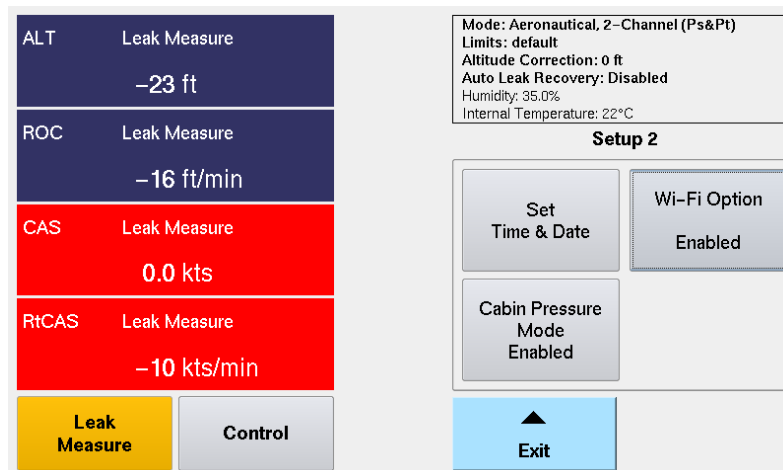

Figure G. 5 Enabled Cabin Pressure Mode
- The unit will change the Cabin Pressure Mode to Enabled (Fig. G. 5).